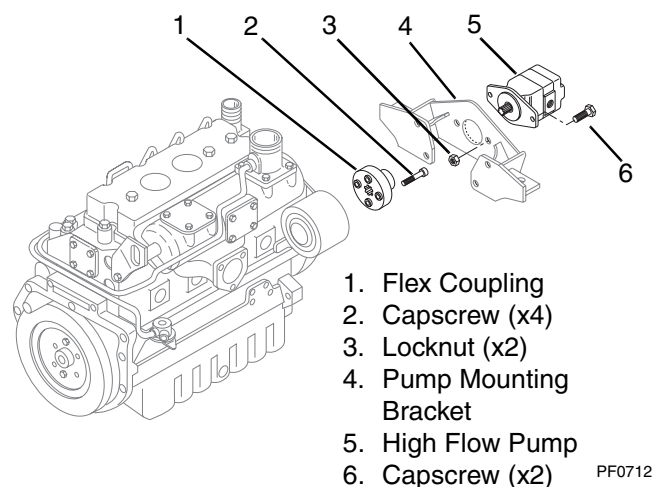

Figure 4-66 High Flow Pump Mounting
5. Remove the capscrews (Fig. 4-66, 6) and locknuts (3) that secure the pump (5) to the mounting bracket (4).
6. Remove the pump (Fig. 4-66, 5) by sliding the pump shaft out of the flexible coupler (1).
7. Remove the flexible coupler (Fig. 4-66, 1) from the crankshaft pulley by removing four capscrews (2).
1. Install the flexible coupler (Fig. 4-66, 1) and secure with capscrews (2). Torque to 80 lb/ft (109 Nm).
3. Slide the pump shaft into the flexible coupler (Fig. 4-66, 1).
4. Secure the pump (Fig. 4-66, 5) to the mounting bracket (4) with capscrews (6) and locknuts (3). Torque to 75 lb/ft (102 Nm).